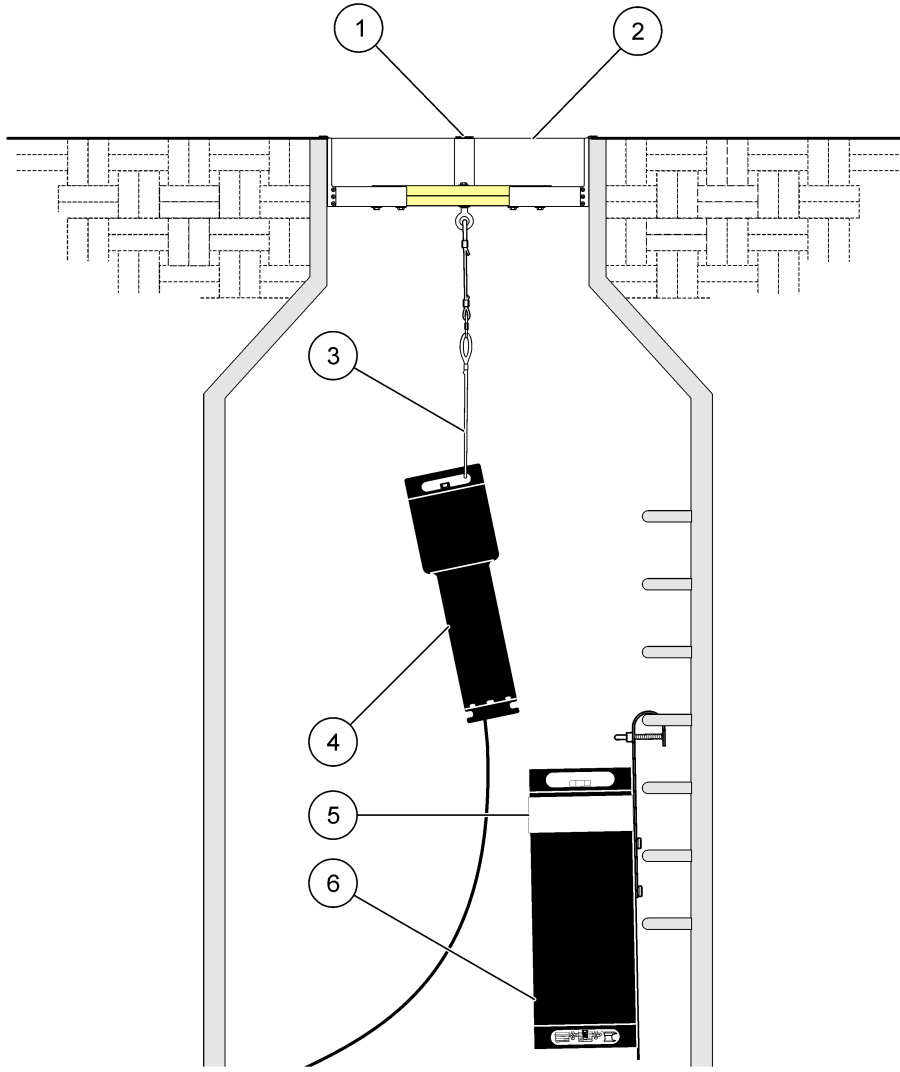

Figure 2 Installation options
- **Mount the meter so that the connectors face down.** The end of the meter that contains the batteries should face up. If the connectors face up, they may corrode and allow water to seep into the instrument. Refer to Figure 2 on page 16.